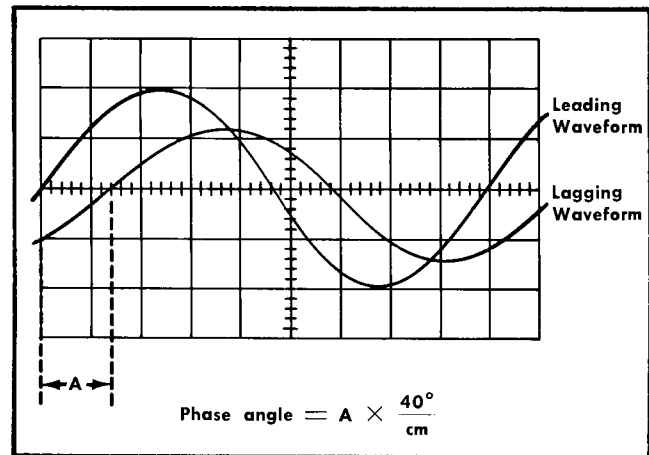

Fig. 2-22. Measurement of the phase angle between two waveforms. Note: the two displayed waveforms are not simultaneously on the screen.
It is possible therefore to measure phase angles by: (1) calibrating the display in degrees per centimeter; (2) measuring the displacement between corresponding points on the two phases; and (3) multiplying the displacement by the number of degrees per centimeter. This method is illustrated in Figure 2-22. Note that the relative amplitude of the two